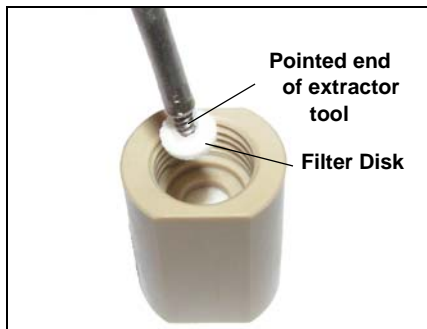

Figure 4. Removing a Filter Disk
4. Insert the pointed end of the extractor tool into the topmost filter disk in the filter holder. Screw the extractor tool into the filter disk and pull the disk out of the filter holder (see Figure 4).